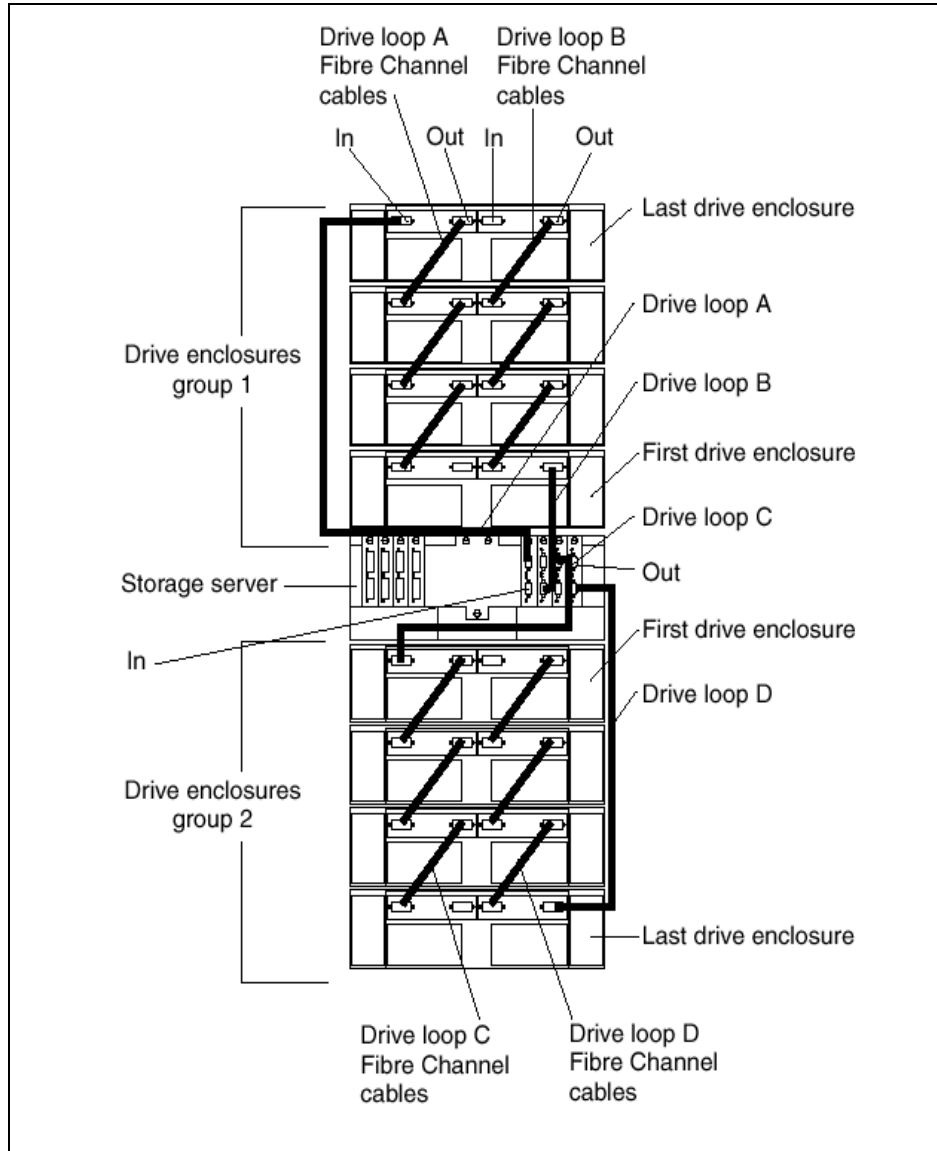

Figure 3-28 FAST900 - drive side Fibre Channel cabling
FAStT900 drive side Fibre Channel cabling is illustrated below (see Figure 3-28 on page 48):
4. If you are cabling a second group, repeat step 1 to step 3 and reverse the cabling order; connect from the Out ports on the ESM boards to the In ports on successive expansion units according to the illustration on the left; see Figure 3-28 on page 48.